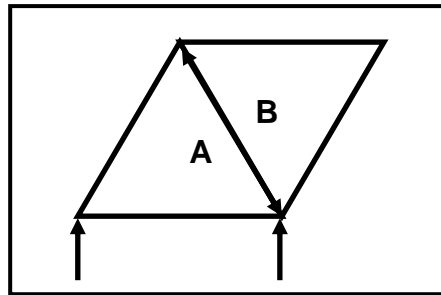

FIGURE 4.5
4.5 Which type of member of a steel framework is represented by **AB** in FIGURE 4.5 below?